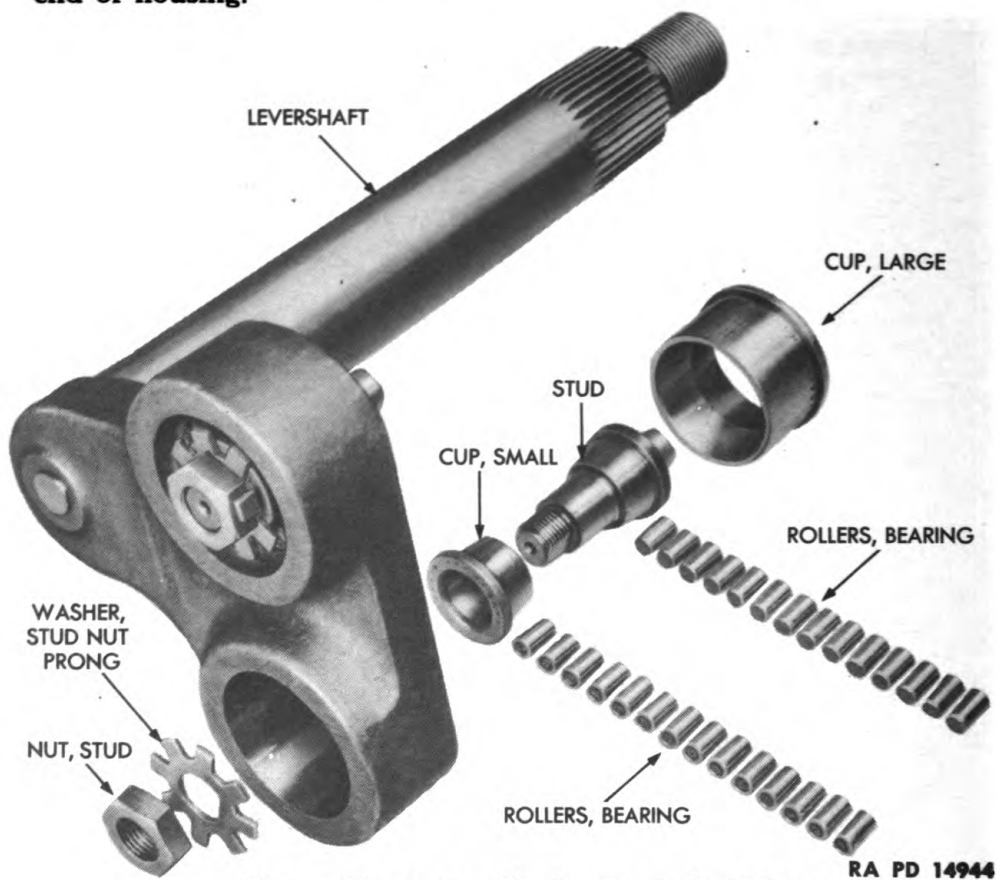

Figure 94—Lever Shaft—Exploded View
(2) DISASSEMBLE LEVER SHAFT ASSEMBLY (fig. 92 and fig. 94).
(b) Place lever shaft assembly in hydraulic press with threaded end of stud up. Press stud out of lever shaft (hydraulic press). Catch the 28 bearing rollers as stud is being pressed out of lever shaft. Pull small cup out of lever shaft (fig. 94).
(4) ASSEMBLE LEVER SHAFT (fig. 94).
(a) Install large bearing cup in lever shaft. Pack bearing cup with lubricant (fig. 94).
(b) Install 14 bearing rollers in each side of bearing cup (fig. 94) and press stud in place (hydraulic press).